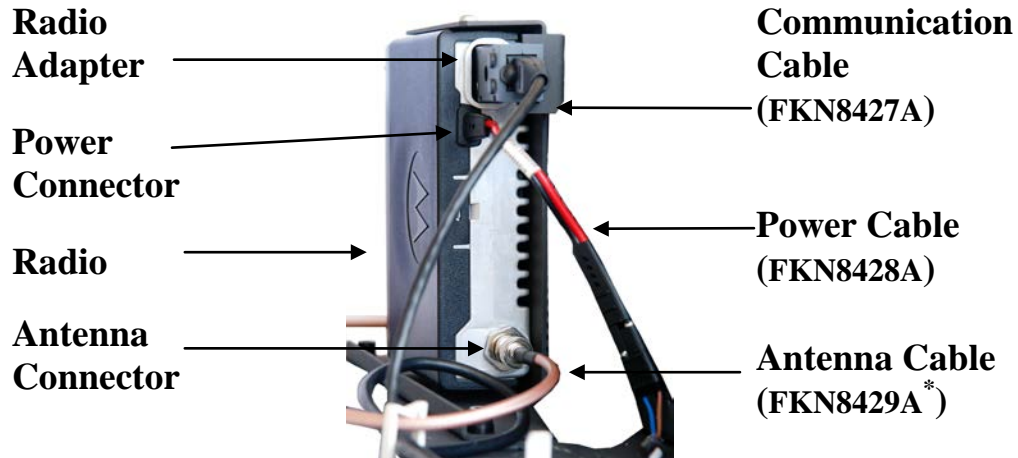
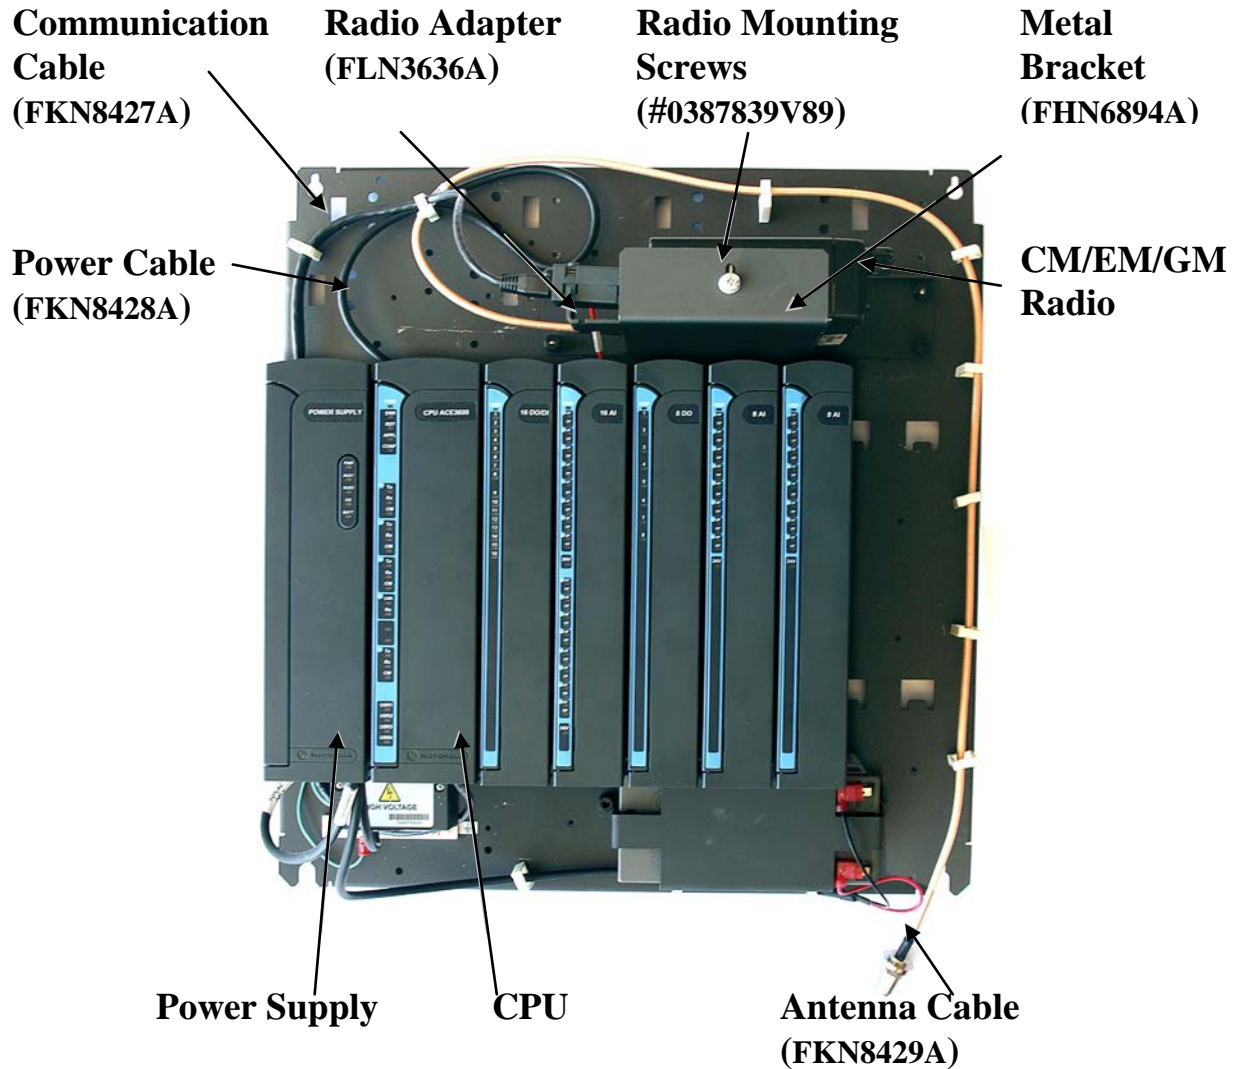

Figure 21-45 CM/EM/GM Radio Cable Connections
Figure 21-46 CM/EM/GM Radio Installed on ACE3600 Chassis
3. Connect the power cable (FKN8428A) to the radio's power connector. (See Figure 21-44 and Figure 21-45.) Connect the other end of the power cable to the AUX1A or AUX1B connector on the ACE3600 RTU Power Supply unit. (See Figure 21-46.)
4. Connect the communication cable (FKN8427A) to the back of the radio adapter (FLN3636A) connector (10-pin RJ45 connector). (See Figure 21-45.) Place one Fair-Rite soft ferrite (#7683477X01 from the supplied ferrite kit FHN7007A) on the cable near the bottom of the CPU door, loop the cable one turn around it, and clamp the ferrite on the cable. Connect the other end of the communication cable to the plug-in port of the ACE3600 CPU.
5. Mount the CM/EM/GM radio onto the metal bracket (#0789422V45) using the two supplied radio mounting screws from kit FHN6894A, # 0387839V89 on the top and bottom of the radio. (See Figure 21-44, Figure 21-45 and Figure 21-46.)
6. Connect the antenna cable (FKN8429A*) to the antenna connector on the radio and to the opening on the bottom of the ACE3600 housing using the four supplied screws. (See Figure 21-45 and Figure 21-46.) Mount the complex (bracket and radio) on the RTU chassis above the CPU and I/O modules, using the four built-in screws. (See Figure 21-46.)